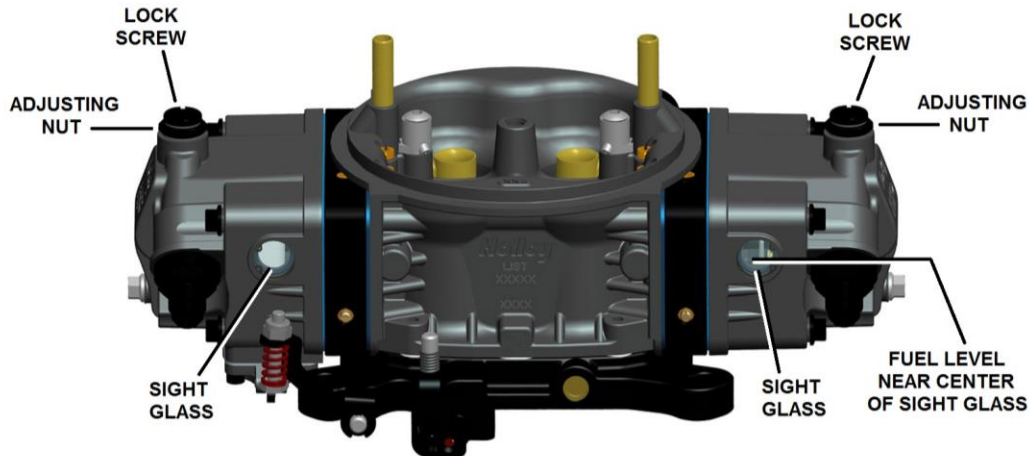

Figure 1
2. The fuel level in the clear sight glass should be mid-level for correct float adjustment. Most likely, this will not need to be adjusted. See Figure 1. The level should be checked at 2-3 psi fuel pressure.